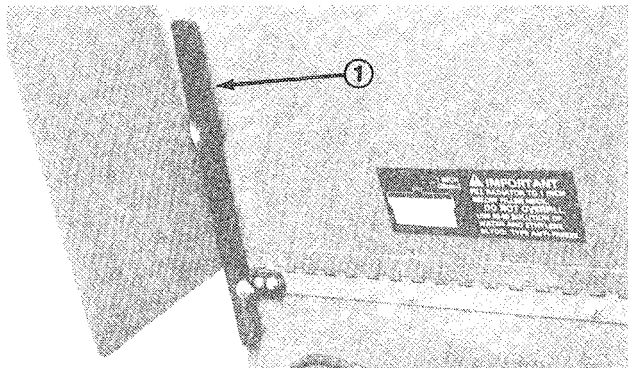

Figure 15
3. Slide bottom of hood prop (Fig. 15) out of retaining bracket. Lower hood prop, pivot upward, then downward to prop up hood.